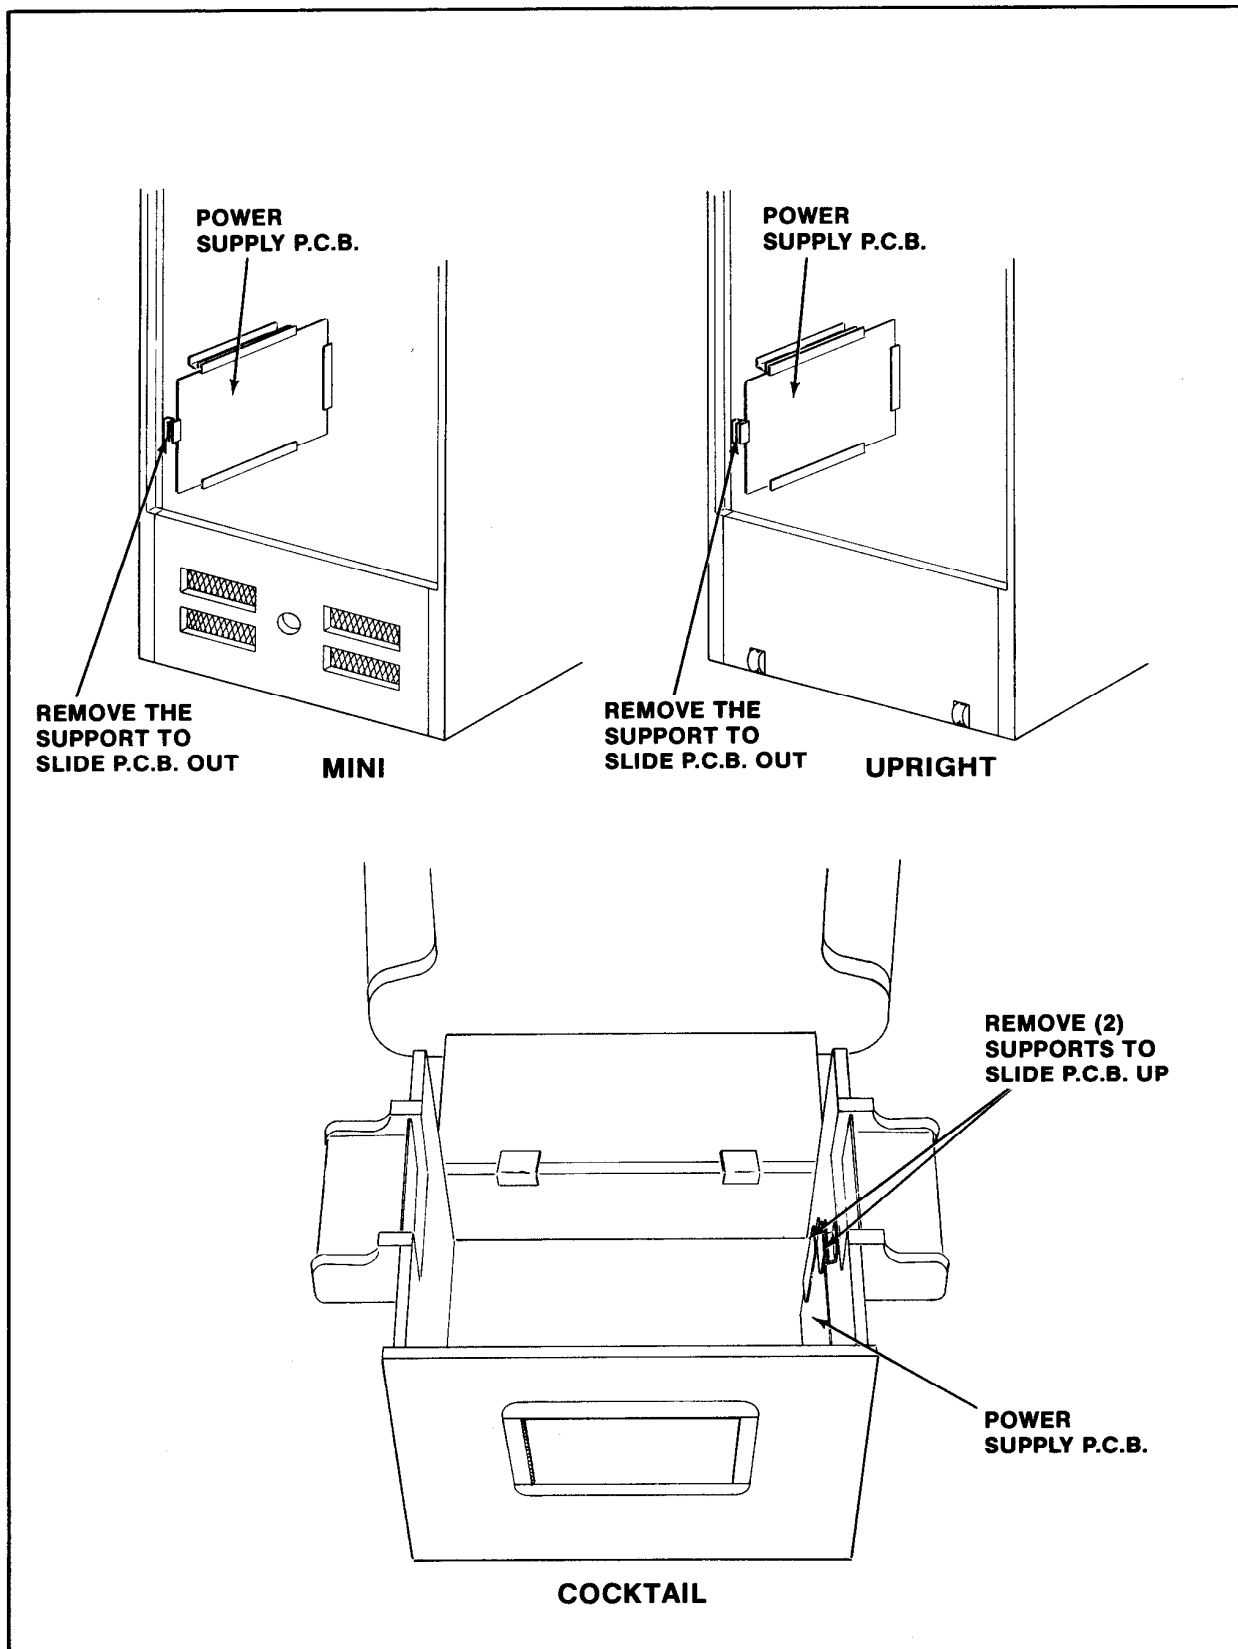

Figure 9. P.C.B. replacement
### 1. UPRIGHT MODEL. SEE FIGURE 9
### 2. MINI MODEL. SEE FIGURE 9
- Disconnect the power supply board from all its cabling, remove the P.C.B. supports indicated in Figure 9, and slide it out the back of the cabinet.
### 3. COCKTAIL TABLE MODEL. SEE FIGURE 9.